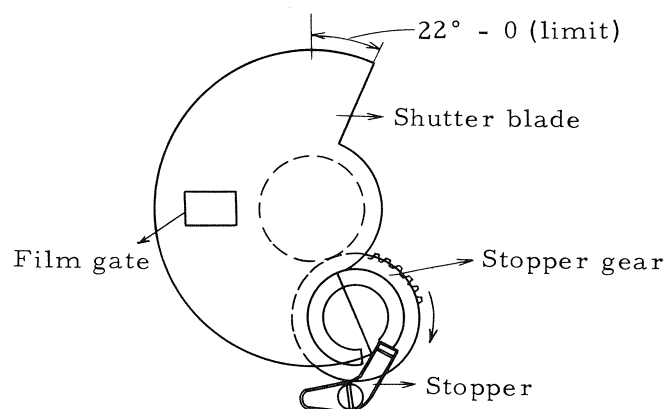

Fig. 5
1. Turn the stopper gear in the direction of the arrow in the diagram below and press against the stopper (Fig. 5)
2. The position of the blade at this time should be as shown in the diagram below. (Fig. 5)